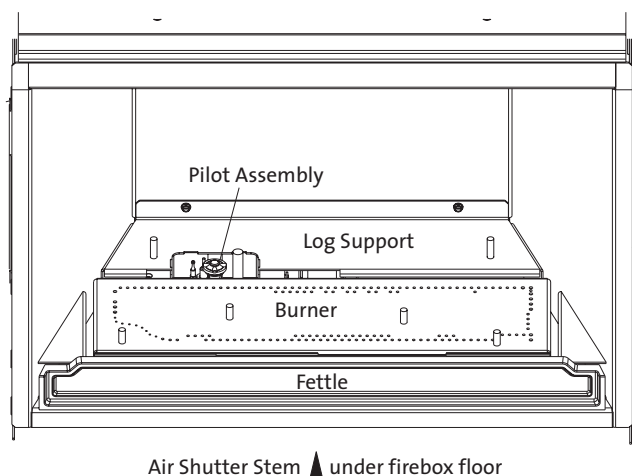

Figure 13. Firebox component identification.
- If you have not already done so, remove the fettle and log set from the firebox. **CAUTION: THE LOGS ARE FRAGILE.** Handle them with care and set aside out of the way. See fig. 13.
**5. Replace the Burner Assembly:** Slide the venturi tube into the Air Shutter and engage the tube fully over the orifice. The burner should engage with the three support brackets on the floor of the firebox. Properly located, the burner will be level and locked into correct alignment with the pilot assembly as in fig. 13.